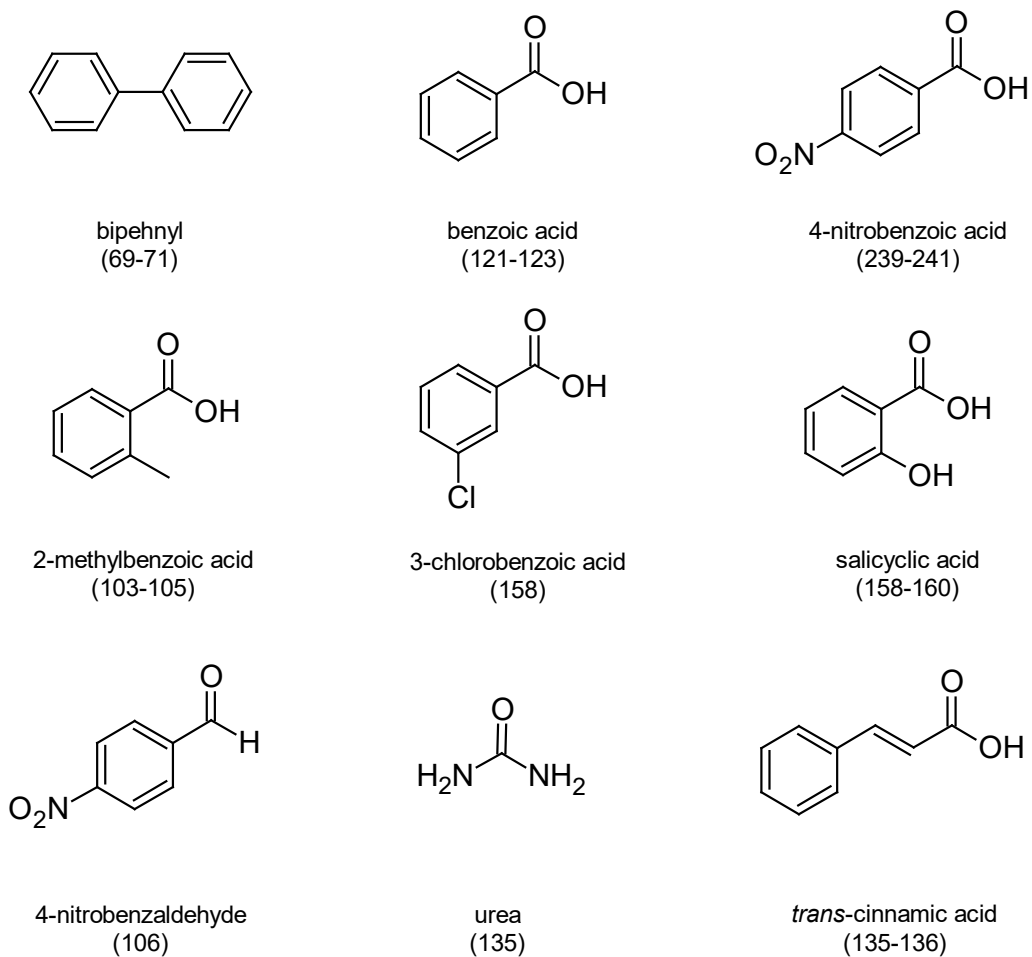

Figure 1.2: Melting Points (°C) of Unknowns Used
In the second part, you will determine the identity of an unknown compound using the mixed melting point procedure. You will determine an initial melting point of just your unknown and use this information to select the two best candidates from the group of possible unknowns (Figure 1.2). The quickest way to determine the identity of your unknown is to prepare three melting point tubes, the first containing your unknown, the second your unknown mixed with candidate 1, and the third, your unknown mixed with candidate 2. Read all three tubes simultaneously in the melting point apparatus. Your unknown will melt at the same time as the mixed sample containing the correct candidate.
Determine the melting point of the unknown sample provided (limited to compounds shown in Figure 1.2). The approximate melting point of the sample is provided in the table below, so that you can decide on the most appropriate setting for the melting point apparatus. Your first step will be to determine the approximate melting point by carrying out a "preliminary run," employing a rapid rate of heating throughout. Once the approximate melting point has been determined, you may proceed measure once more with a slow **Ramp Rate** (not more than  $2^{\circ}\text{C}/\text{min}$ ).
You will be assigned an unknown sample (limited to compounds shown in Figure 1.2). Determine the melting point of your assigned compound using the "melting-point method". Identify the top two (2) possible candidates based on the melting point you obtained.